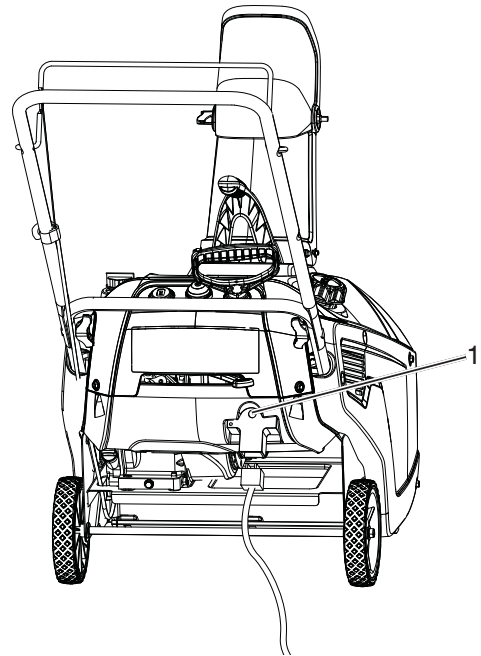

Figure 12
4. Pull the recoil starter (Figure 13) or if your snow thrower is equipped with an electric starter, connect an extension cord to the snow thrower and plug the other end into a three-hole grounded 110 volt A.C. receptacle and push the electric-start button (Figure 12).
6. Unplug the extension cord from the power source and the snowthrower (Figure 12).